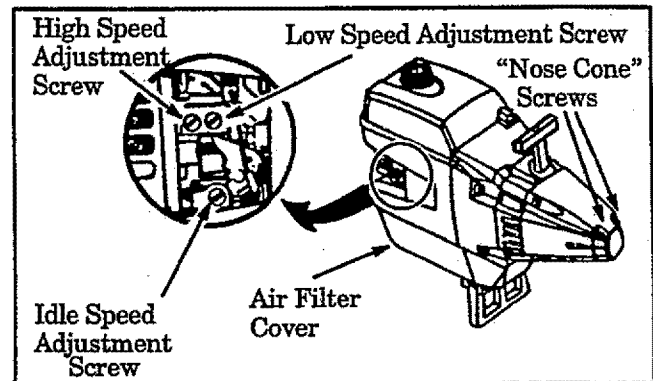

Figure 25
- a. Turn the low speed mixture screw and the high speed mixture screw (Figure 25) clockwise until they stop. *Do not turn the screws until they are tight as damage to the needle seats can occur.*
2. Adjust idle speed screw (Figure 25) until engine continues to run without stalling and without blade or trimmer head moving.
- b. **If the engine does not accelerate smoothly,** turn the low speed mixture screw (Figure 25) counterclockwise a small amount (no more than the width of the slot in the adjusting screw).
2. Turn the low speed mixture screw (Figure 25) slowly clockwise until the speed starts to drop. Note this position.
3. Turn high speed mixture screw (Figure 25) very slowly clockwise until engine speed is reduced.